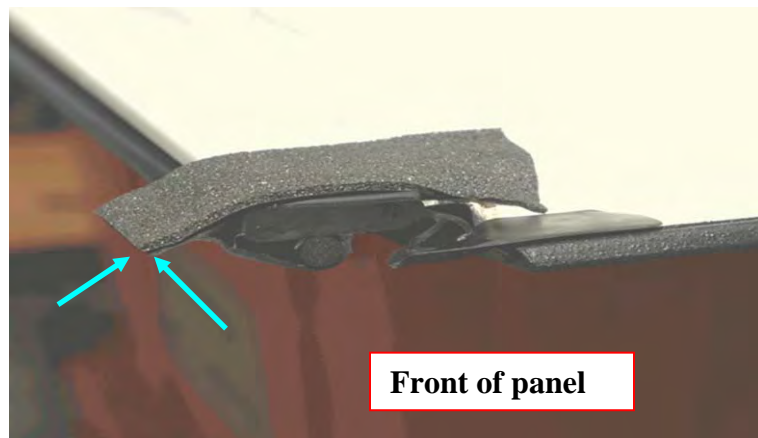

Figure 24
- Install **GREY** 30 X 75 mm Foam from kit (68026937AB) along trim lines of flame tip (Figure 24)